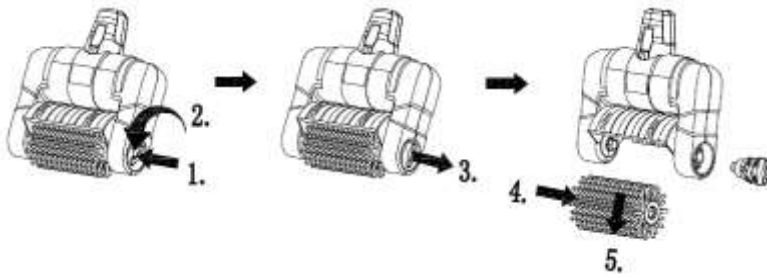

Fig. 3
- Disassemble roller plastic brush (12), Refer to Fig.3